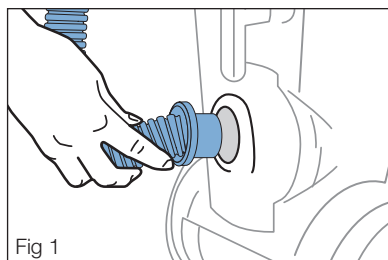

Fig 1
- Remove wand from handle. Twist bottom end of hose to remove from vacuum cleaner body (Fig. 1).